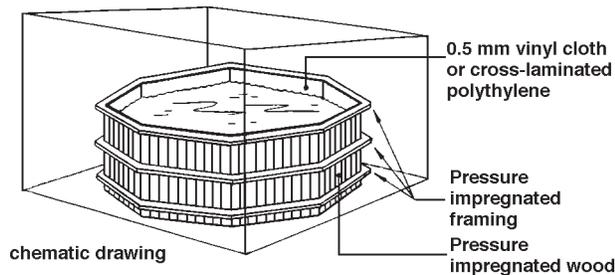

Figure 25
- 217 Vinyl cloth or polyethylene can also be used as a liner material in cisterns. The storage tank can be buried or stand above ground (Figure 25).
A cistern can also be made like a pool, with a plastic liner as the impermeable layer. Manufacturers of swimming pools sell premade vinyl cloth. Fill the excavation with sand that is carefully compacted, or mount the pool on a special frame that is placed above ground (Figure 25).